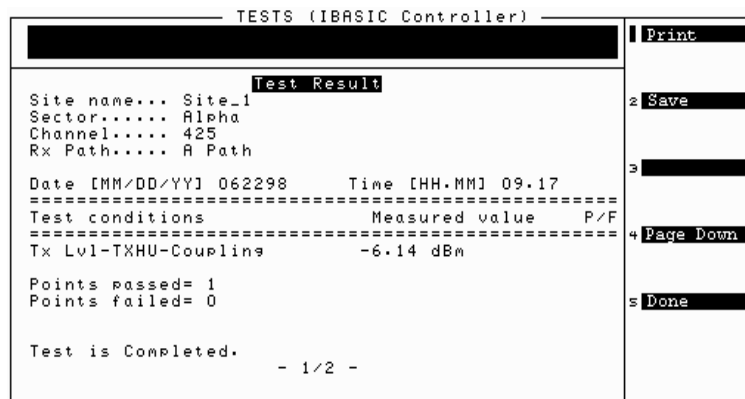

Figure 33 Test Results Table for TX Level - TXHU Measurement
- Press k1 (Proceed) to proceed to the test results table when you are finished testing on this screen (see figure 33).